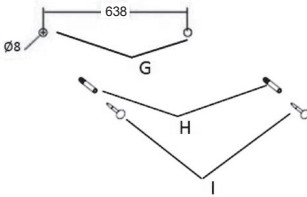

Fig.5
4. Drill 2 holes with a distance of 638mm between(G) with a diameter of 8 mm; insert 2 expansion bolts (H) and 2 long bolts (I) into the hole. The explored length of the long bolts should be over 5mm. see Fig 5